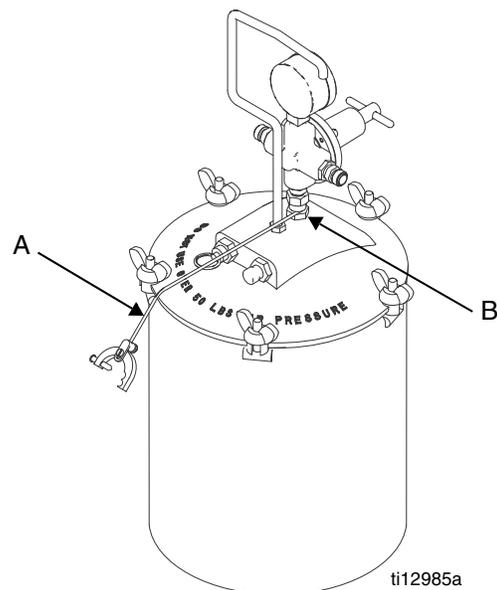

FIG. 1: Ground the equipment
Pump: connect the ground wire (A) firmly to a metal part of the tank such as the swivel (B) at the base of the regulator. Connect the other end of the wire to a true earth ground. See FIG. 1. Order Part No. 237569 Ground Wire and Clamp.